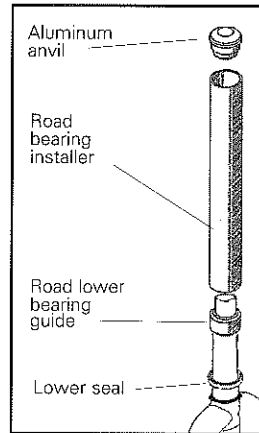

Fig. 46
17. Place the **road lower bearing guide** over the end of the steerer tube (Fig. 46).